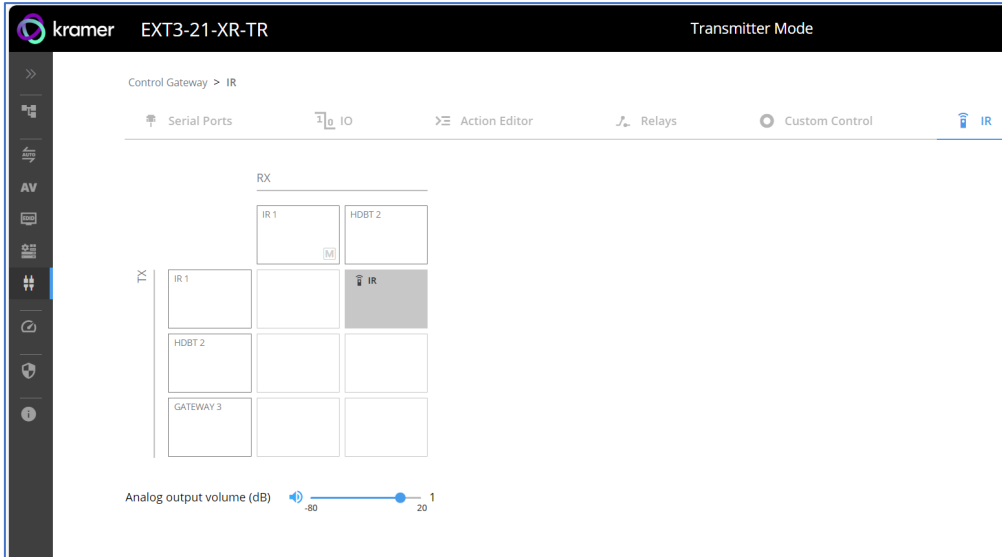

Figure 44: IR Tab Signals Routing
IR routing cross-point grid for Tx and Rx operation modes (see Figure 44), enable IR signals routing, as follows:
2. Select the **IR** tab. The IR tab opens (see Figure 44).